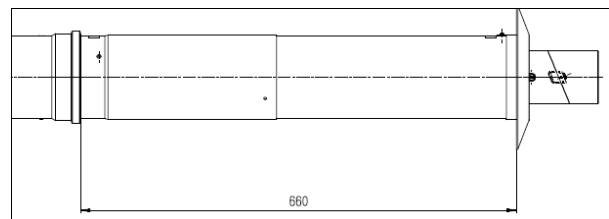

Fig. 5: 80/125mm Flue 7-716-190-064
**80/125:** For external walls with a thickness between 440mm & 660mm the standard telescopic flue kit & terminal 7-716-190-064 can be utilised (see Fig. 5).